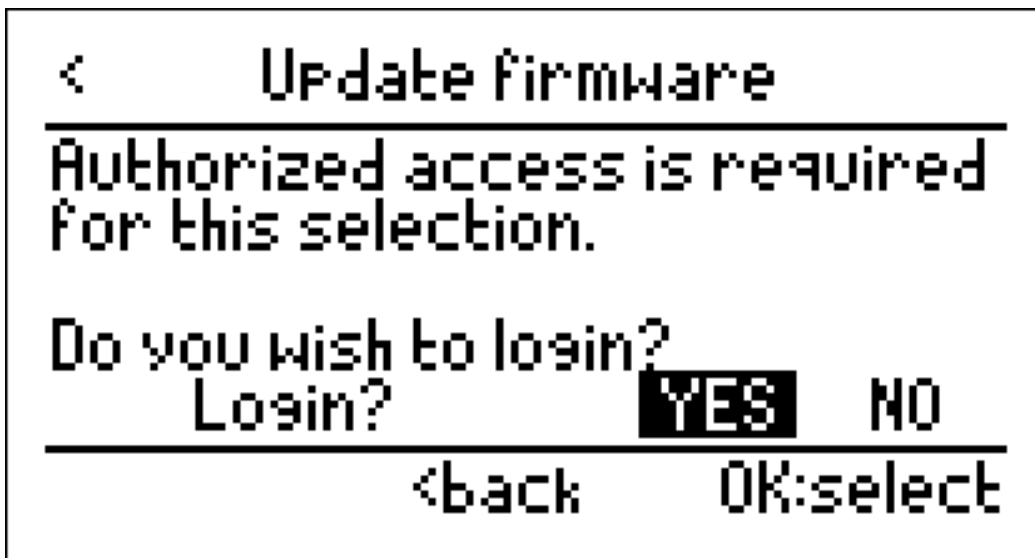

Figure 6 Login with Base passcode
6. Login to the SLATE Base for permission to continue with bootloading (see Figure 6). The default Base passcode is "1111".